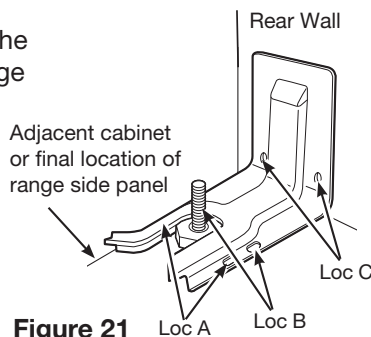

Figure 21
**5** Mark the location for the pair of holes to be used (see Figure 21).